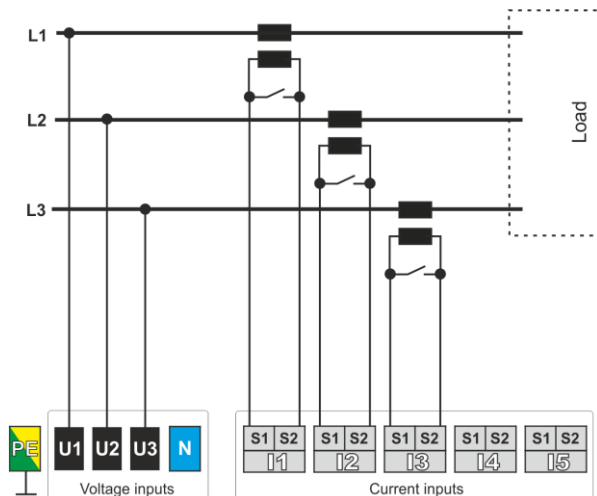
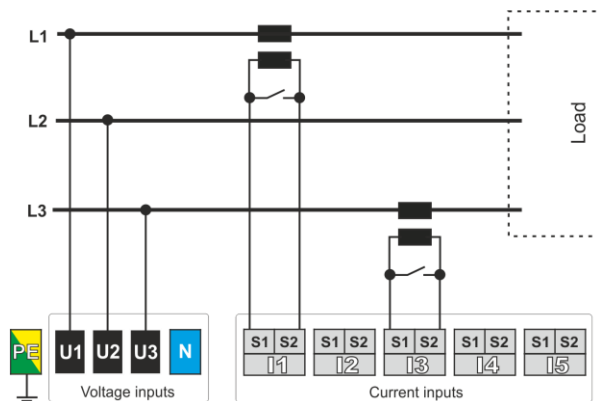

Fig. 28. Wiring diagram – 3-phase 3-wire, direct voltage connection.
Fig. 29. Wiring diagram – 3-phase 3-wire with current measurement using Aron method.
- 3-phase 3-wire (Fig. 28, Fig. 29),
In 3-wire systems, currents may be measured with the Aron method (Fig. 29), which uses only two current channels that measure currents I_{L1} and I_{L3} . I_{L2} current is then calculated using the following formula:
This method can be used in 3-phase 3-wire systems (Fig. 29).